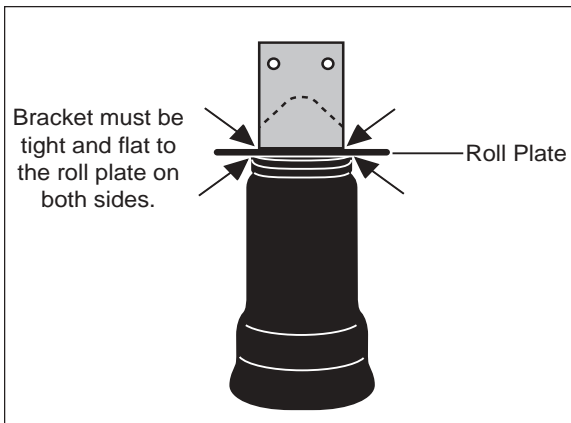

Figure 2
- b. In order to use the adapter bracket, slide the adapter under the lower bracket and lock in place by inserting the tabs on the adapter through the original mounting holes in the lower bracket (Figure 2).
- d. It is necessary to remove the lower shock absorber mounting bolt. Position and tighten the provided U-bolt with the lower bracket/adapter assembly in place. Be sure to use two (2) washers on each leg of the U-bolt (Figure 2).
If the vehicle has a rough and harsh ride it may be due to either too much pressure or not enough (fig. 2). Try different pressures to determine the best ride comfort.